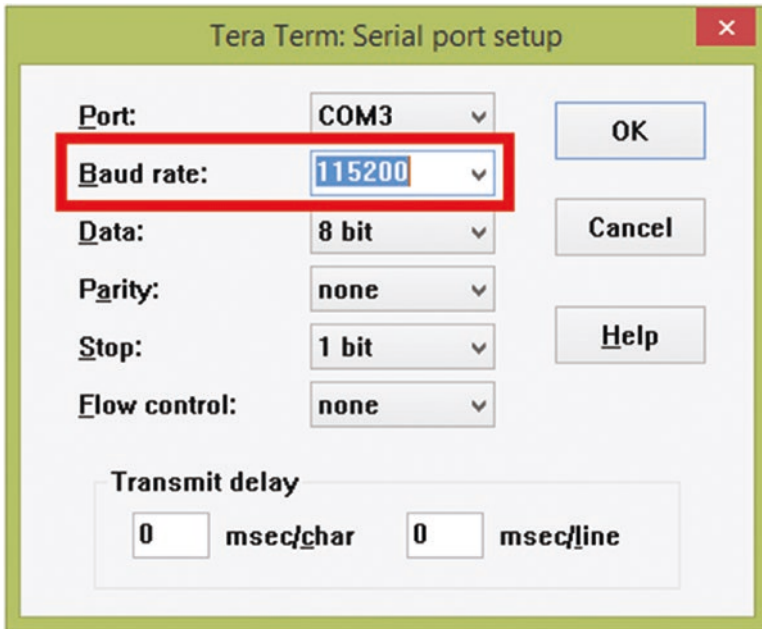

Figure A-6. Serial port setup
3. Select Serial Port from the Setup menu to confirm that the communication settings are correct. In the Serial Port Setup dialog box (see Figure A-6), choose the Baud rate as 115200. Then click OK to save the settings and close the dialog box.